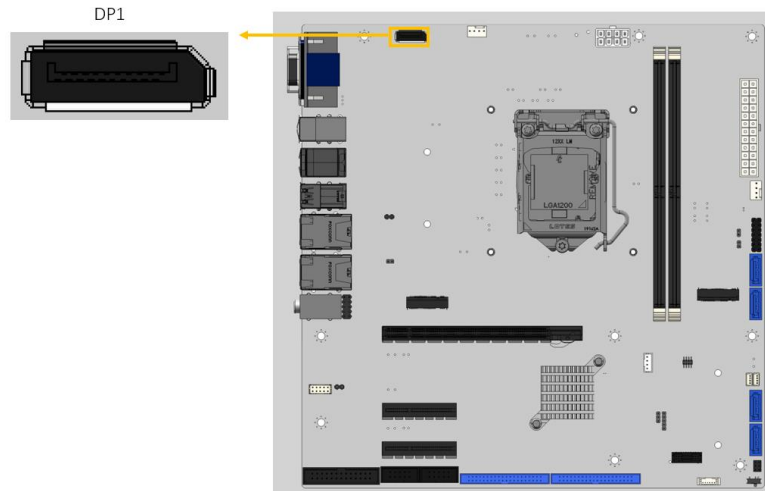

Figure 3-22: Internal DisplayPort Connector Location
- CN Location:** See **Figure 3-22**